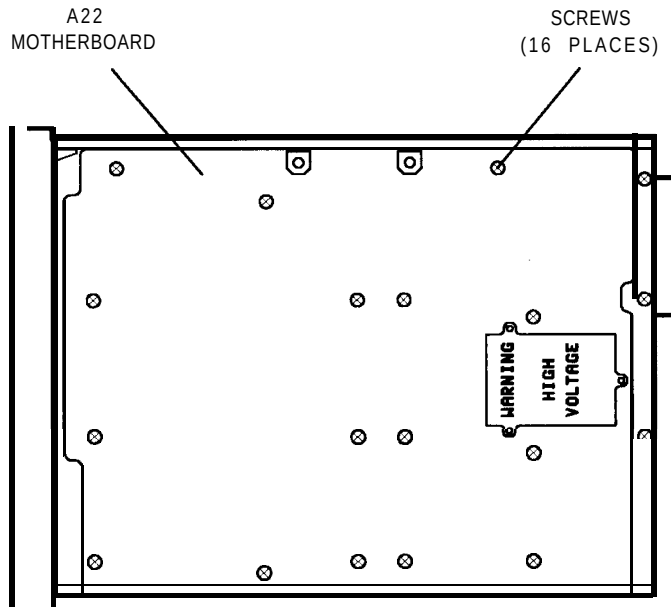

Figure 7-39. Motherboard Screws
2. Remove the 16 screws from the bottom side of the motherboard bottom side. Refer to Figure 7-39.